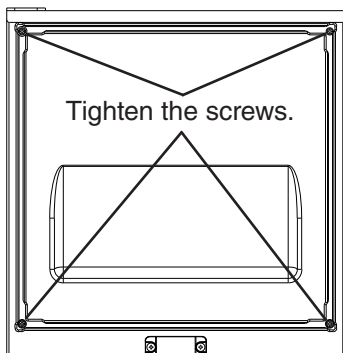

Fig. 19
- 7) Tighten the four M4×25 pan head screws installed in step 5. See Fig. 19.